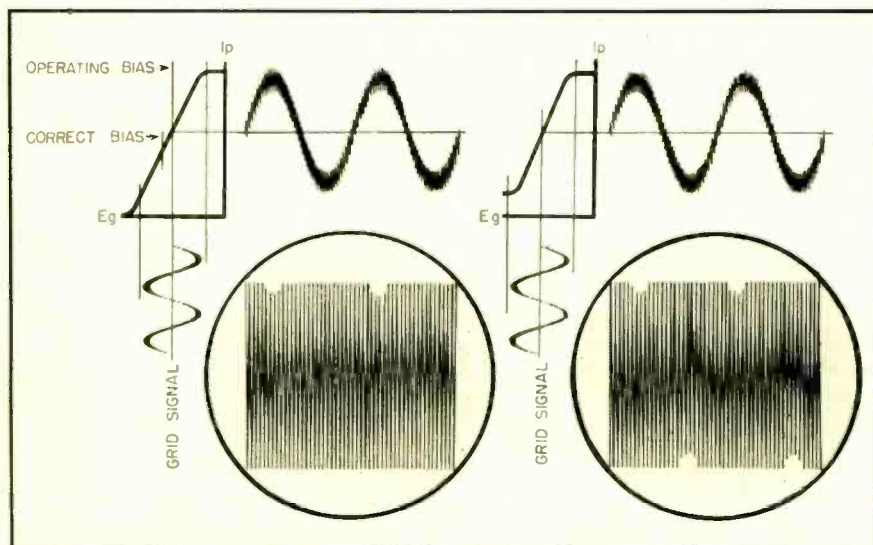
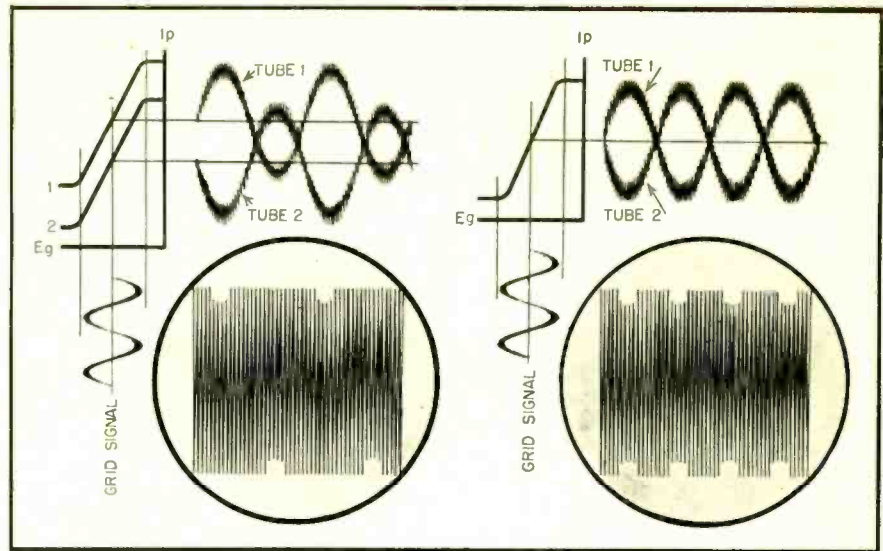

Fig. 5.  $I_p E_g$  curves, and type of indications resulting from single-tube amplifier stage with (A) insufficient bias, and (B), right, excessive input signal.
Fig. 6.  $I_p E_g$  curves, and type of indications resulting from push-pull amplifier stage with (A) insufficient bias, and (B), right, excessive input signal.
To analyze the results obtained from this method refer to Figs. 5 and 6. In Fig. 5(A) is shown the test signal applied to the grid of a single-tube amplifier stage operating at an insufficient grid bias. As the amplitude of the test signal is increased, the positive swings of the plate current are flattened out ahead of the negative swings, and the high-frequency fringe of the test signal is clipped at certain points. When the filtered carrier is viewed on the oscilloscope, the effect of the clipping is shown by notches in one side of the pattern. Thus the presence of two notches on one side of the pattern is an indication of an incorrect bias condition in a single-tube stage. Note that the sweep circuit of the oscilloscope is adjusted so that it shows two complete cycles of the low-frequency signal.
In (B) of Fig. 5, the test signal is shown applied to a tube which is operating at the correct grid bias, but the amplitude of the signal is greater than the linear portion of the  $E_p I_p$  curve of
When making tests of push-pull stages, the patterns obtained from insufficient grid bias conditions are shown in Fig. 6(A) which shows the effect of the test signal applied to two push-pull tubes. The positive peak of the wave is clipped by one tube, while the negative peak (which is the positive peak to the opposite tube) is also clipped. The plate-current curves of the two tubes are shown, both having the tops clipped. However, due to the push-pull connection, one of these curves is inverted, so that four notches appear in the pattern, resembling that of Fig. 5(B). When a push-pull stage is operated beyond its maximum permissible grid swing, the pattern will exhibit eight notches, four on each side as in Fig. 6(B).